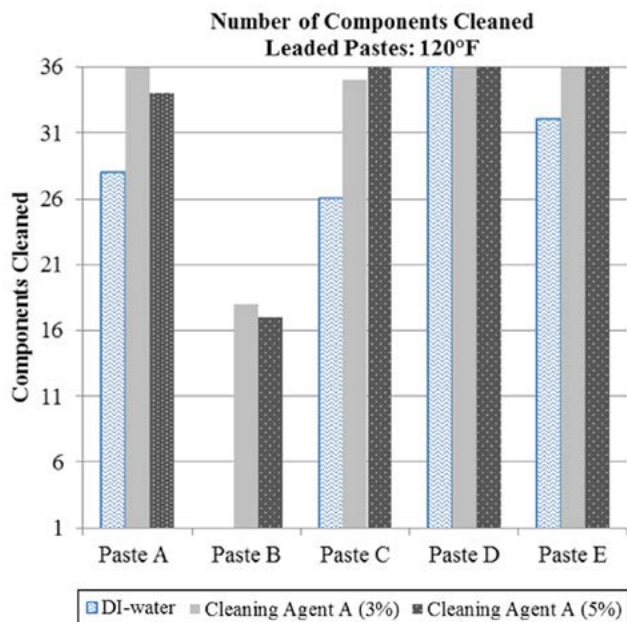

Figure 8: Results - Paste Analysis
- Completely cleaned surface underneath all components at all temperature scenarios using Paste D (Figures 8, 9, and 10).
- Completely cleaned surface underneath all components at all temperature scenarios using Pastes D and E (Figures 8, 9, and 10).